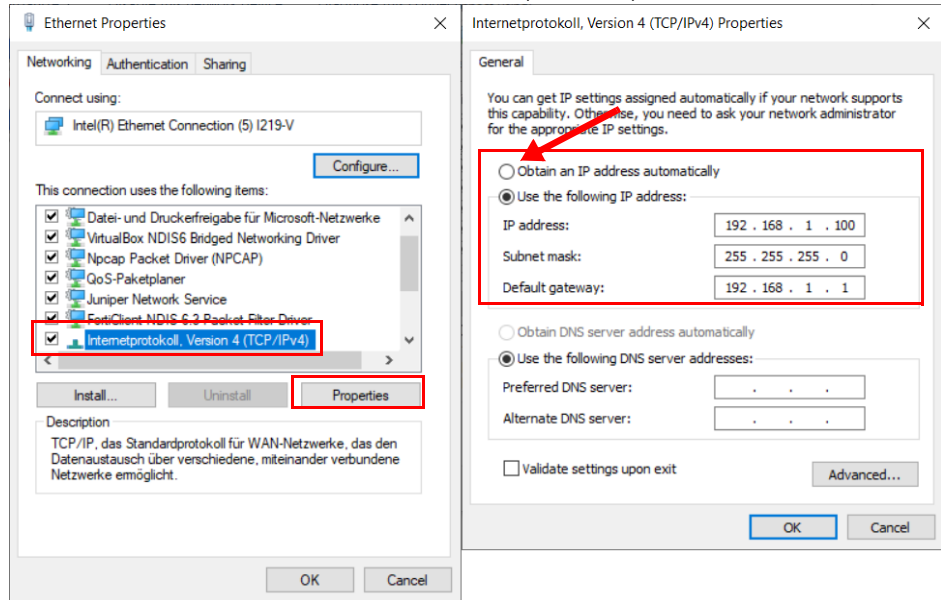

Figure 4-4 Changing the IP setting of the configuration computer (admin PC)
- Enter the values in accordance with the example in Figure 4-4 / Table 4-1.